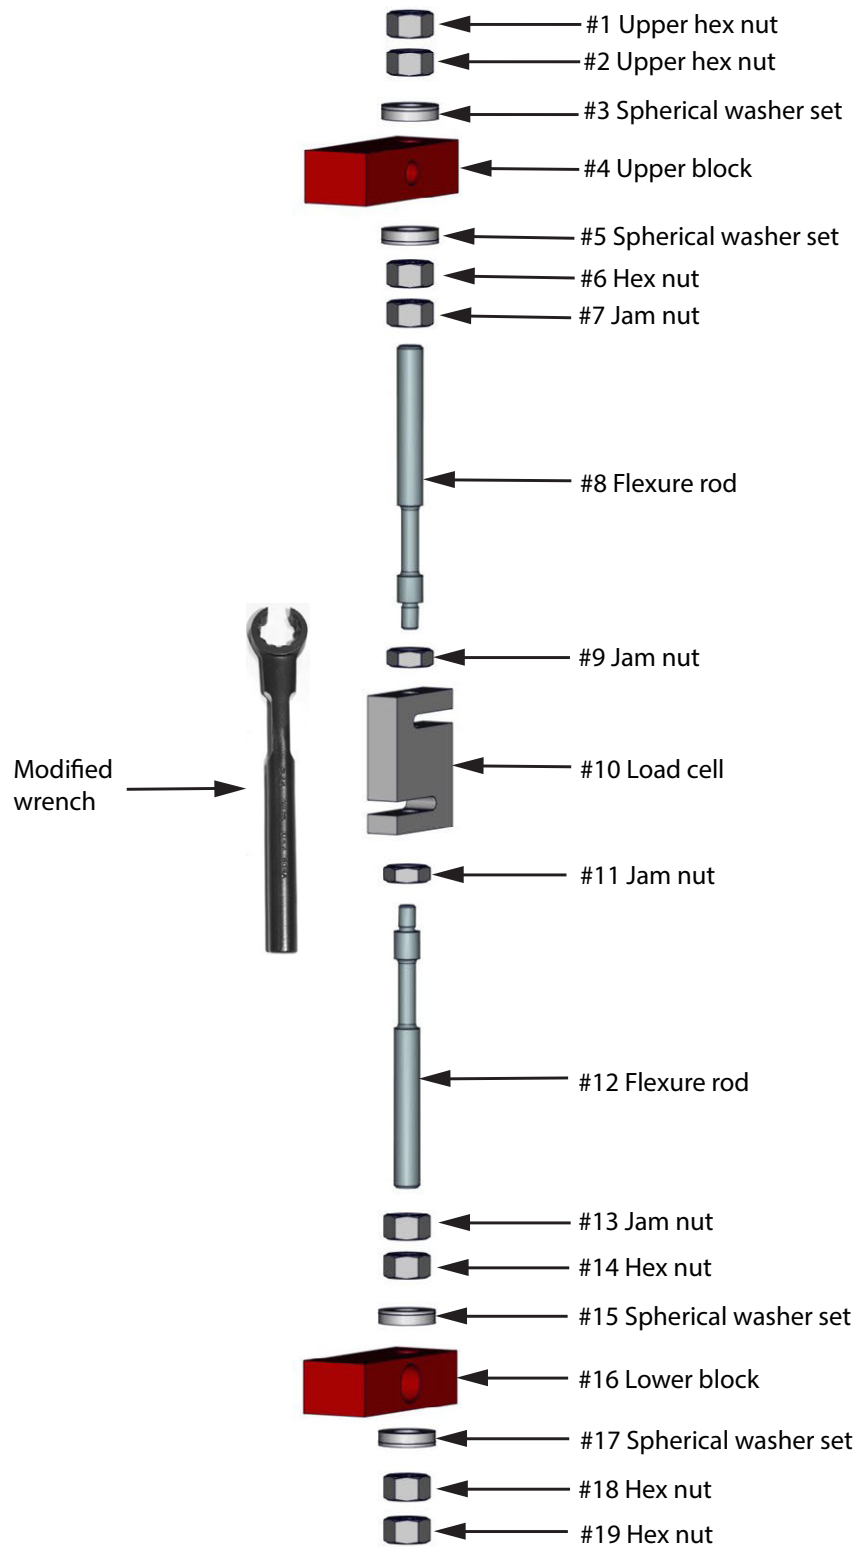

Figure 4-25. CLS-M Load Cell Assembly Parts Breakout
5. Loosen jam nut (#7) from the upper block using the special modified box wrench (PN 96196 - supplied with load cell replacement kit) and shown in Figure 4-25.
21. Insert the load cell and thread flexure rods into top and bottom of the load cell making sure the appropriate hex nuts, jam nuts, and spherical washers are in the correct order per Figure 4-25 on page 78.